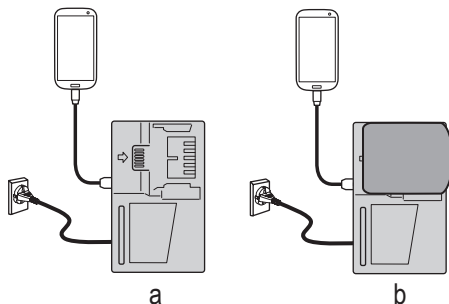

Fig. 17
- Charging a USB device from a electrical outlet. (**Fig. 17-a**)
- Charging a USB device and battery from an electrical outlet. (**Fig. 17-b**)